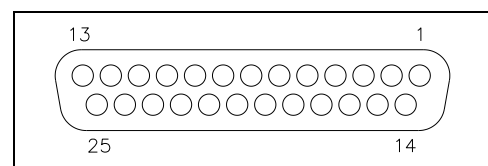
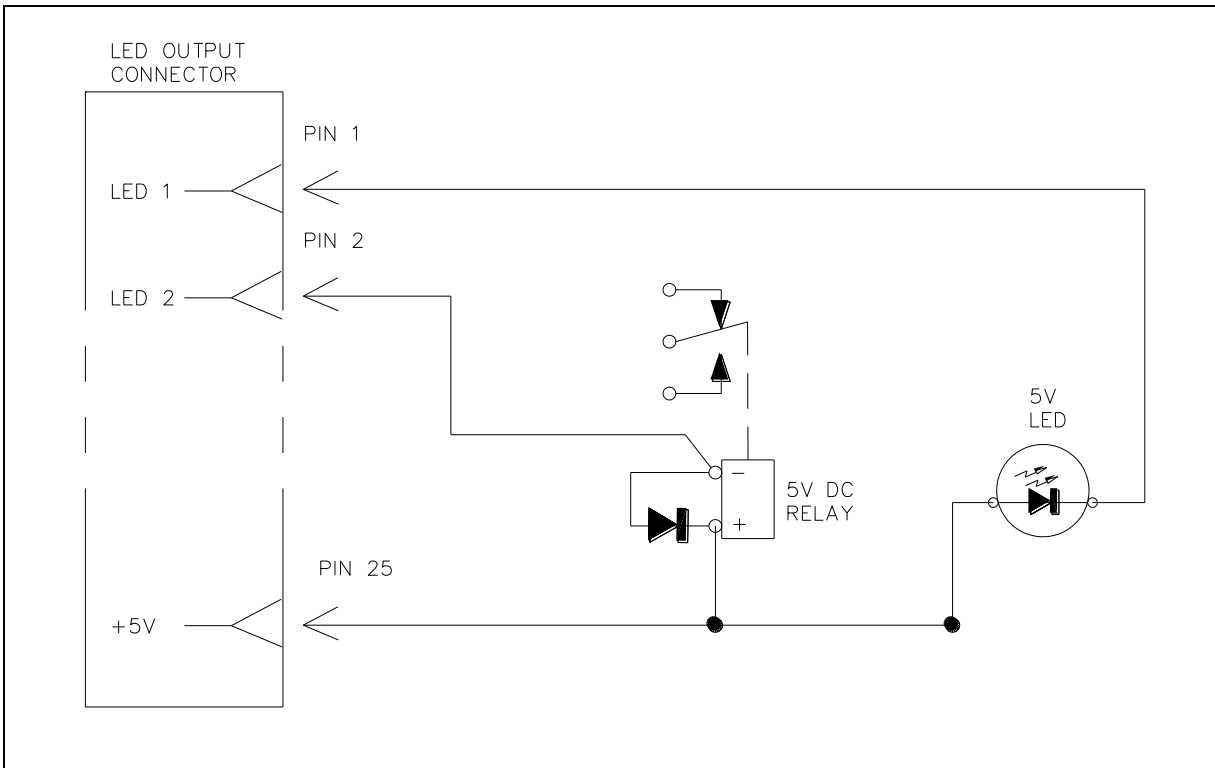

Figure 4. DB-25 Pin Out
Figure 5. Typical Connection Diagram
- The pin out of the connector correlates to the LED number, e.g. pin 1 is for LED 1, pin 2 is LED 2, etc. Pin 25 is +5 V dc to power the remote indicators or relays (see Figure 4 and Figure 5).